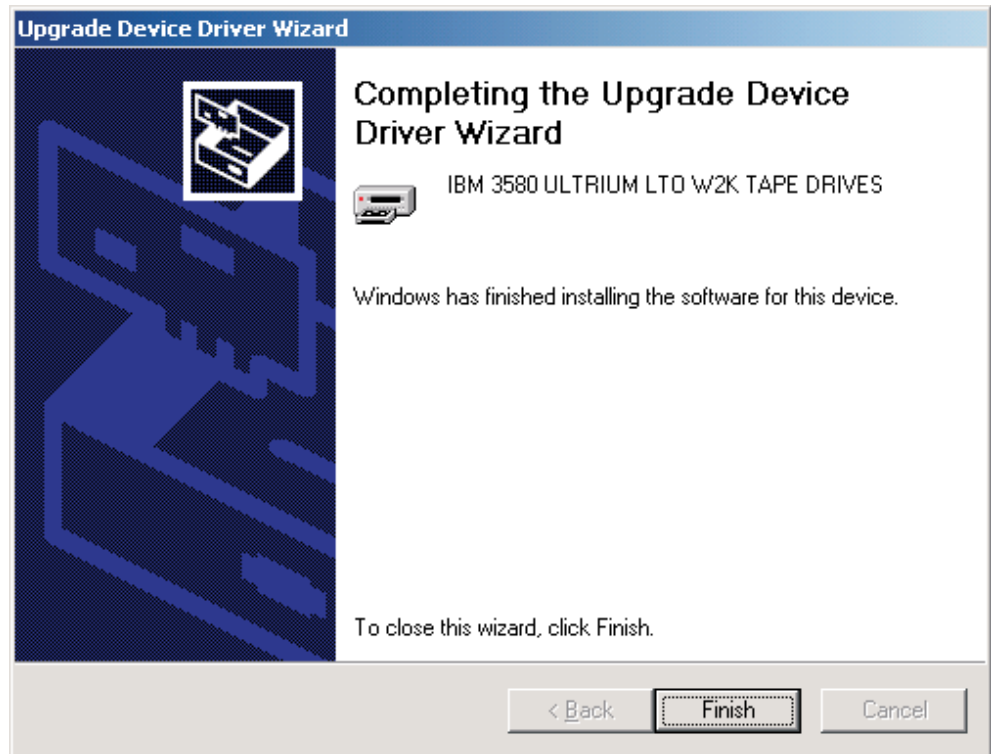

Figure 36. Completing the Upgrade Device Driver Wizard
11. If the installation was successful, you will be prompted to click **Finish** to complete the installation process. See Figure 36.